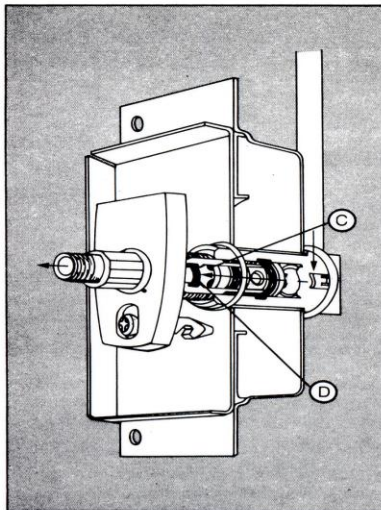

FIGURE 1
Inserting the adapter pushes the poppet inward, permitting gas to flow through the adapter. Leakage is prevented by the O-ring © encircling adapter (D) - Figure 1.